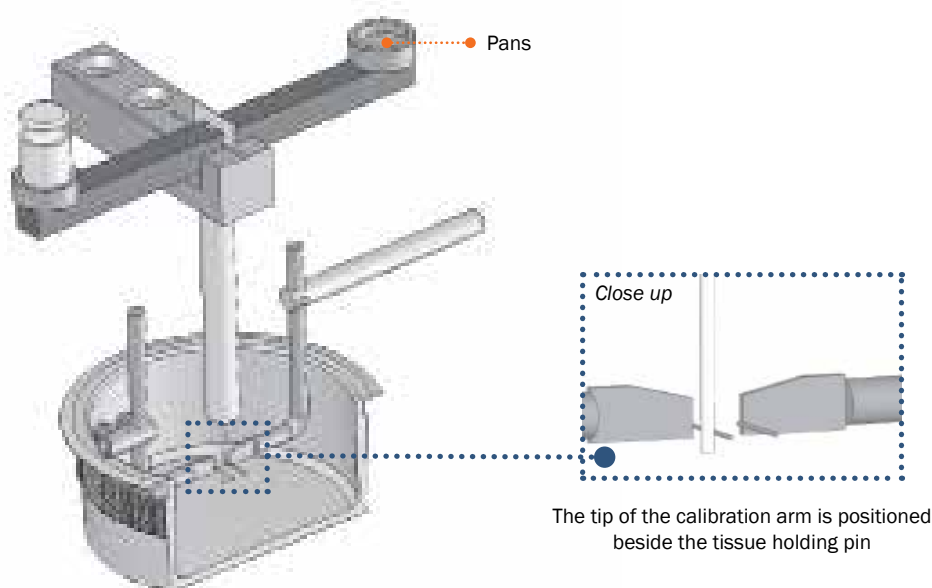

Figure 4.4 Weight calibration kit shown in place on the chamber
Force transducer calibration procedure (Figure 4.4)
2. Set up the calibration kit (bridge and balance) on one of the Tissue Bath chambers as illustrated in Figure 4.4 below. Also place the weight on one of the chambers. Turn the heat on as discussed in “3.1.3 Heat menu” on page 15. The system takes about 20 to 30 minutes to reach 37 °C. Lower temperatures take less time and higher temperatures take more time to reach. Make sure adequate time is allowed so that calibration can be performed at the temperature at which the experiments will be performed. Placing the calibration kit and weight on the chamber allows them to warm up to the experimental target temperature. There is no need to bubble the chambers while waiting for the system to heat up.
3. When the system reaches target temperature, adjust the calibration kit so that the tip of the calibration arm is as close to the tissue holding pin on the transducer side as possible without touching, as illustrated in Figure 4.4 below. One way to do this is to use the following technique. Start with the calibration kit in place so that the tip of the calibration arm is not touching any part of the tissue holding pins. Go to the main menu displaying the forces, and zero the channel being calibrated so the force reads zero. Slowly and gently slide the calibration kit forward toward the micrometer so that the calibration arm rests on the tissue holding pin, creating a force reading on that channel. Carefully slide the calibration kit back toward the transducer slowly until the force reads zero. At this point, as soon as the force reads zero, the calibration arm will be properly placed for weight calibration.